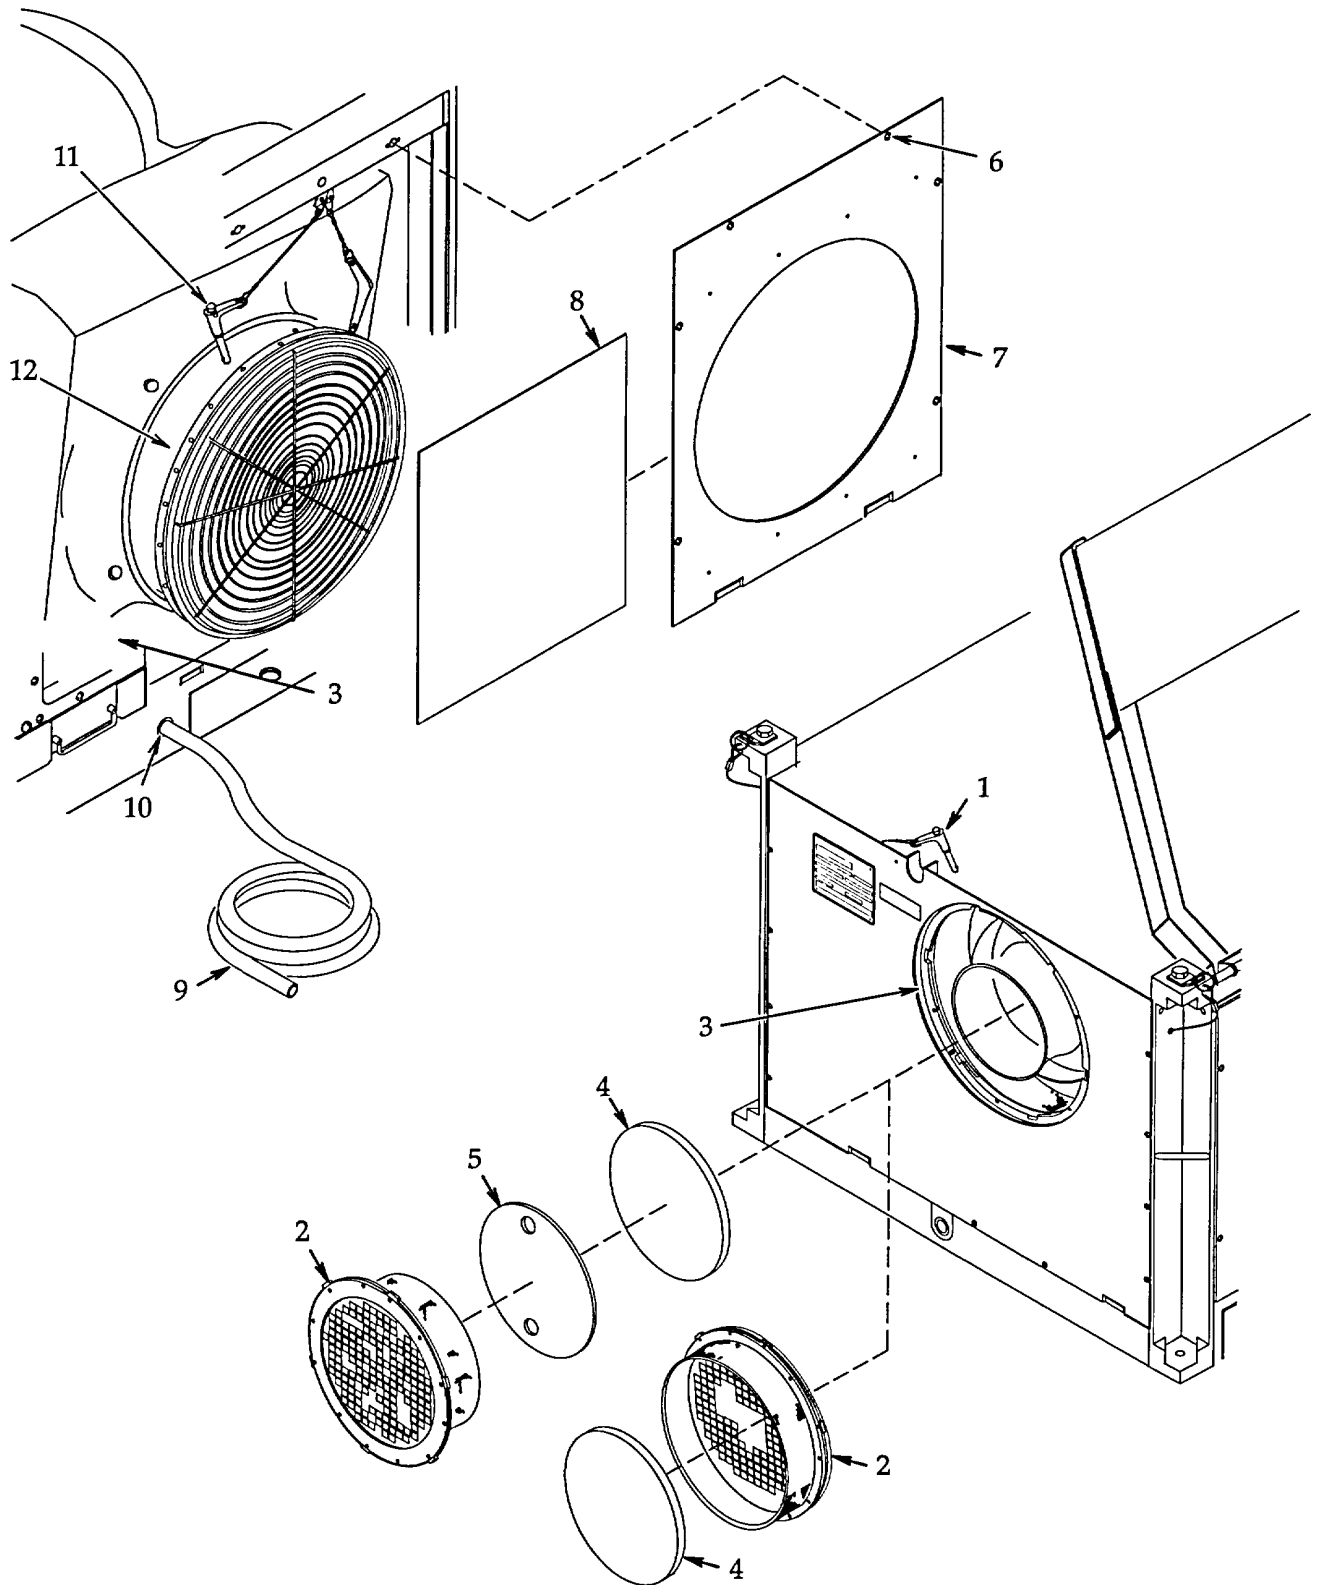

Figure 4-4. Shipping Covers and Condensate Drain Hose.
4.4.4 **Remove Shipping Covers and Condensate Drain Hose.** See figure 4-4.